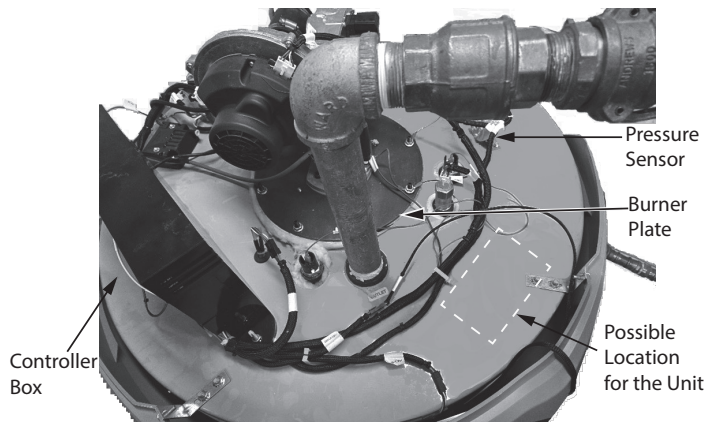

Figure 2. Controller and Pressure Sensor
2. Locate the black control box and the pressure sensor. Position the module between them. Leave at least an inch between the unit and the edge of the water heater as shown in **Figure 2**.